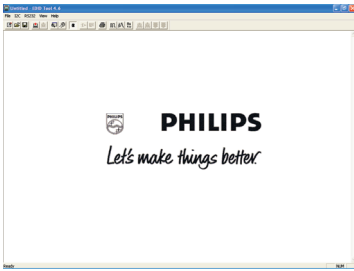
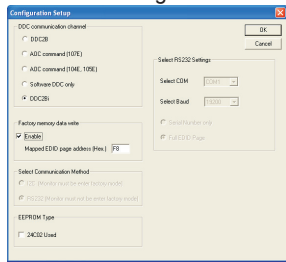

Fig. 11
Fig. 12
- Click icon as shown in Fig. 11 from the tool bar to bring up the Channels "Configuration Setup" windows as shown in Fig. 12.
- Select the DDC2Bi as the communication channel. As shown in Fig. 12.